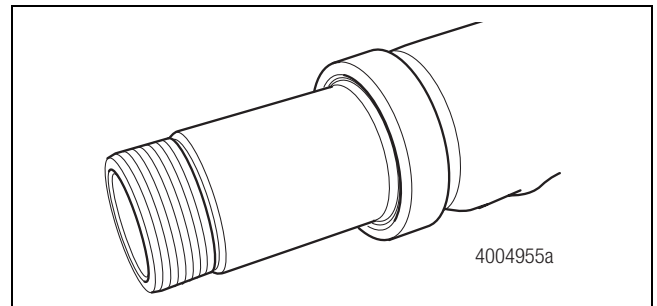

Figure 3.2
- The axle spindles are straight and shorter than conventional spindles. Figure 3.2.
- The retention hardware inner nut is thicker than a conventional nut and is stamped with installation information. Figure 3.2.